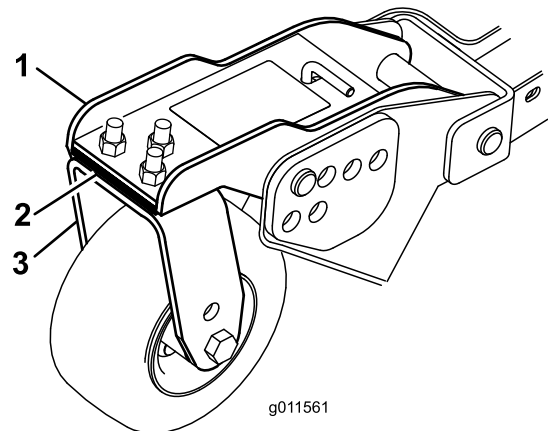

Figure 31
Rotate blade of each spindle until the ends face forward and backward. Measure from the floor to the front tip of the cutting edge. Adjust 3 mm (1/8 inch) shims on front castor arm(s) to match height of cut to decal (Figure 31). For the outside blade spindle only, refer to Adjusting the Cutting Unit Pitch \(page 69\).
3. If the inside edge of the side cutting unit is too high relative to the outside edge of the front cutting unit, remove one 3 mm (1/8 inch) shim from the bottom of the front inside castor arm on the side cutting unit (Figure 31). Recheck measurement between outside edges of both side cutting units and inside edge of side cutting unit to outside edge of front cutting unit.